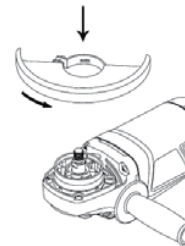

Figure 1
1)The auxiliary handle (1) can be fitted to the left or the right or the above. Select the position which gives the most comfortable and safe use.
2)Fitting the grinding guard or cutting guard: (See figure 1 and 2)